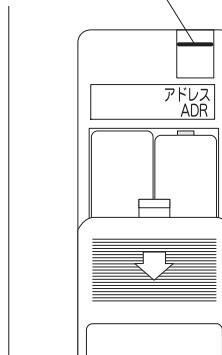
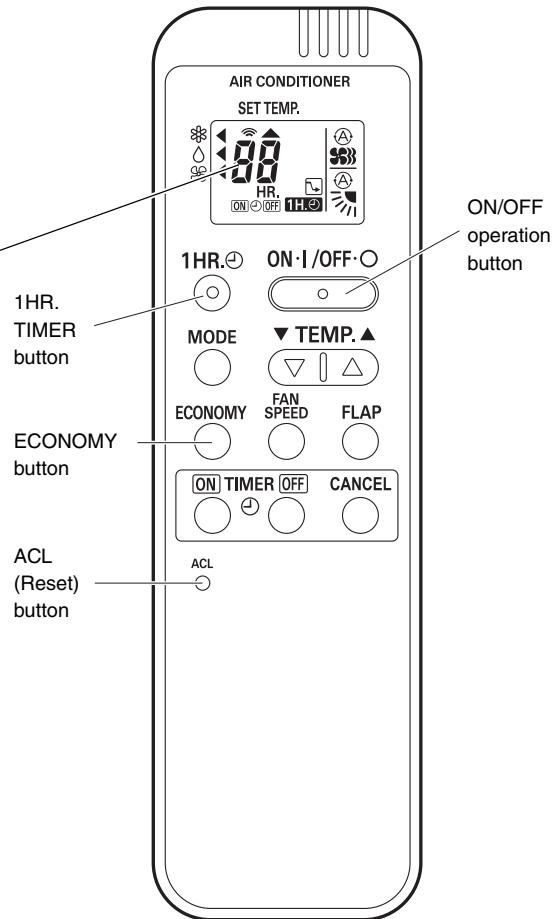

Fig. 13
Fig. 14
- (1) Switch on the power source.
- (2) Slide the rear cover of the remote control unit, and cut the jumper wire for address switching using a nipper then draw away the cut wires to prevent short circuit. Slide back the rear cover. When the wire is cut, the address is automatically set to a different address (Fig. 13).
- (3) Press and hold the remote controller ECONOMY button and 1HR. TIMER button. Then, press and hold the ACL (Reset) button with a pointed object such as the tip of a pen. After 5 seconds, release the ACL button first, then release the ECONOMY and 1HR. TIMER buttons. "P1" (Test Run) appears, blinking in the remote controller display area.
- (4) Each time the 1HR. TIMER button is pressed, the display changes as shown below. Press this button 2 times to change the display to "P7" (Address Setting). (Fig. 14)
- (5) "P7" has now been selected for address setting.
- (6) Press the ON/OFF operation button on the remote controller. (Fig. 14) Check that the "beep" signal-received sound is heard from the second indoor unit (approximately 5 times). The sound you hear is the signal that the remote controller address has been changed.
- (7) Finally press the remote controller ACL (Reset) button to cancel the blinking "P7" display. (Fig. 14)